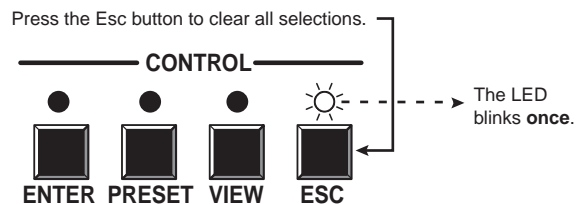

Figure 3-22 — Clear all selections
1. Press and release the Esc button (figure 3-22).